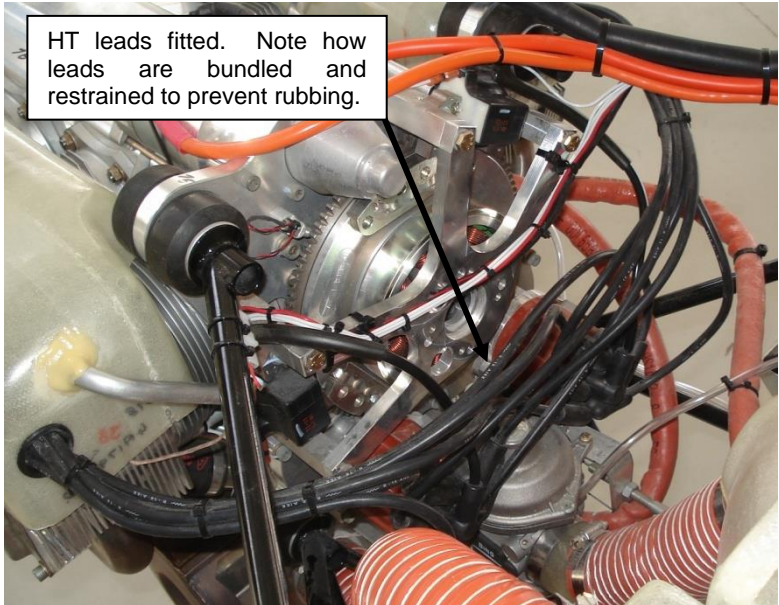

Figure 204 – HT Leads Fitted To Engine
- Assemble the high-tension leads onto the engine, cable-tying them as shown in Figure 204.